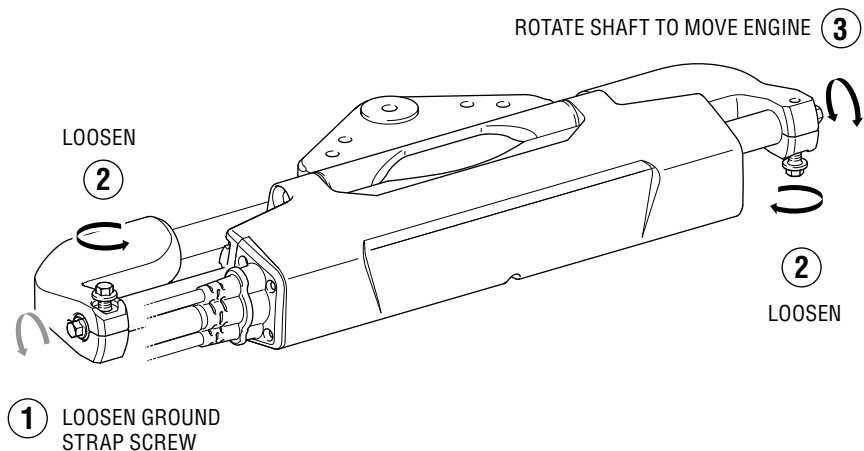

Figure 4-2. Emergency manual steering override procedure.
1. Use the emergency override tool included with your documentation package to loosen the flange bolt that is securing the ground strap to the starboard side of the actuator (step 1 in figure 4-2). If you do not have the tool you will need a 3/8" wrench or socket. Loosen it enough that the ground strap tab will be free to rotate around the bolt when the shaft turns.
2. Use the same tool to loosen both support bracket clamp bolts a (step 2 in figure 4-2).
3. Turn the shaft using the hex-head feature on the port end of the actuator shaft to manually steer the engine as required (step 3 in figure 4-2). Check that the ground strap is not binding or wrapping.